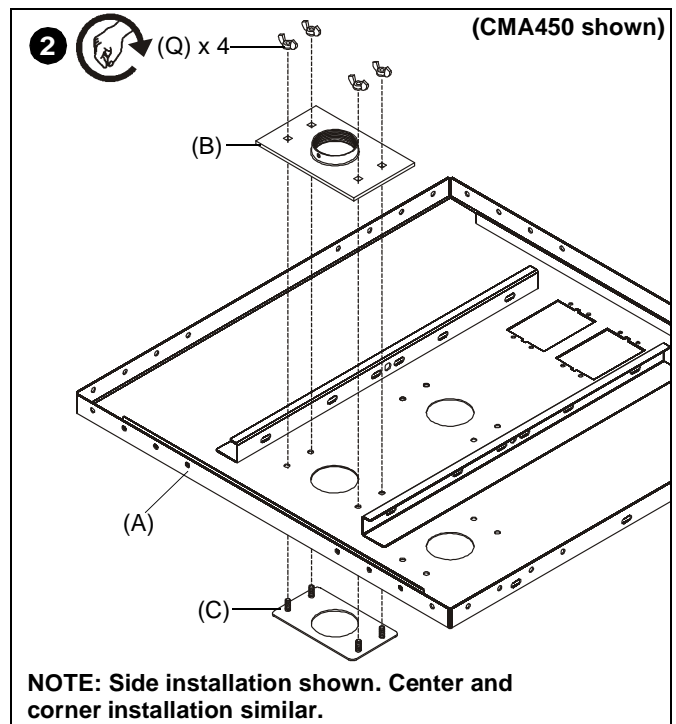

Figure 3
2. **CMA450 ONLY:** Use four 1/4" wing nuts (Q) to assemble extension column upper support (B) and lower support (C) to center, side, or corner of CMA450 assembly (A) (as required). (See Figure 3)